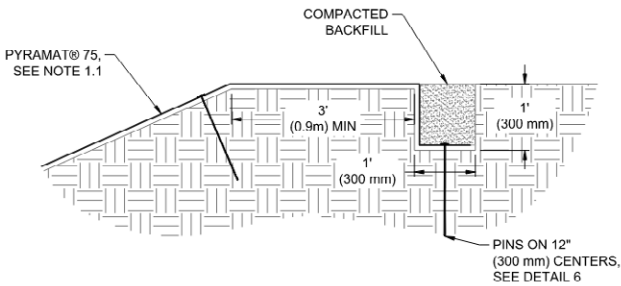

Figure 1: Crest of Slope (COS) trench
3. Excavate a Crest of Slope (COS) trench 12 in x 12 in (300 mm x 300 mm) minimum at a distance of 3 ft (900 mm) from the crest of the slope (Figure 1).